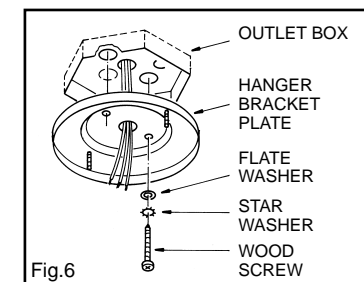

Fig.6
**Step 2.** Use the two wood screws and washers to secure the hanger bracket plate directly to the building joist via the knock-out holes from the outlet box. (Fig. 6)